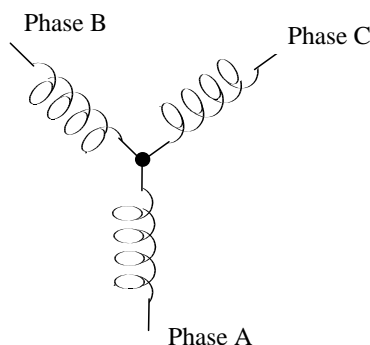

Figure 1.1: Three-Phase Wye Winding
- The wye connection is so called because when you look at the phase relationships and the winding relationships between the phases it looks like a wye (Y). Figure 1.1 depicts the winding relationships for a wye-connected service. In a wye service the neutral (or center point of the wye) is typically grounded. This leads to common voltages of 208/120 and 480/277 (where the first number represents the phase-to-phase voltage and the second number represents the phase-to-ground voltage).
- Usually a wye-connected service will have four wires; three wires for the phases and one for the neutral. The three-phase wires connect to the three phases (as shown in Figure 1.1). The neutral wire is typically tied to the ground or center point of the wye (refer to Figure 1.1).